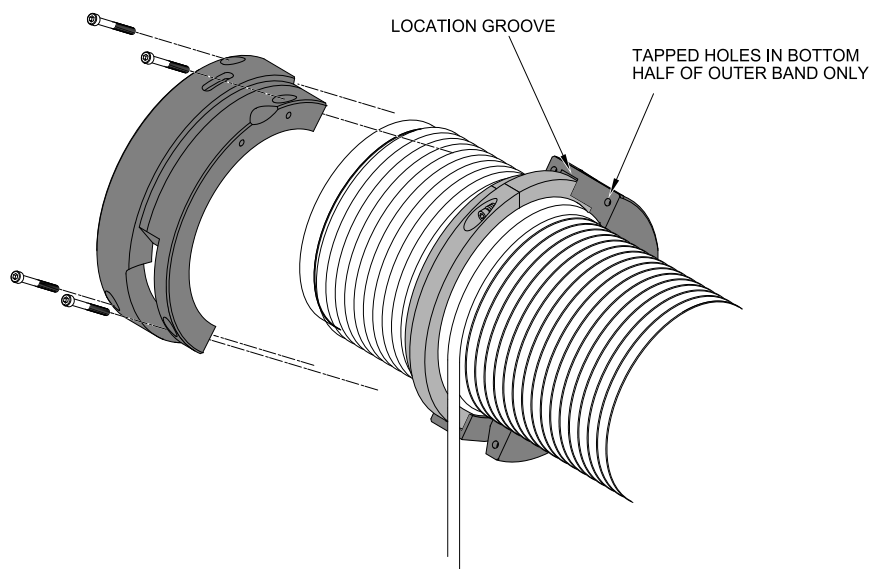

Figure 34 – Fitting Rope Guide Outer Band
- Fit the bottom half of the outer band (tapped joint holes) over the inner band and rotate until it is on the underside of the barrel ensuring that the slot collects the rope which leaves the barrel (see Figure 34).